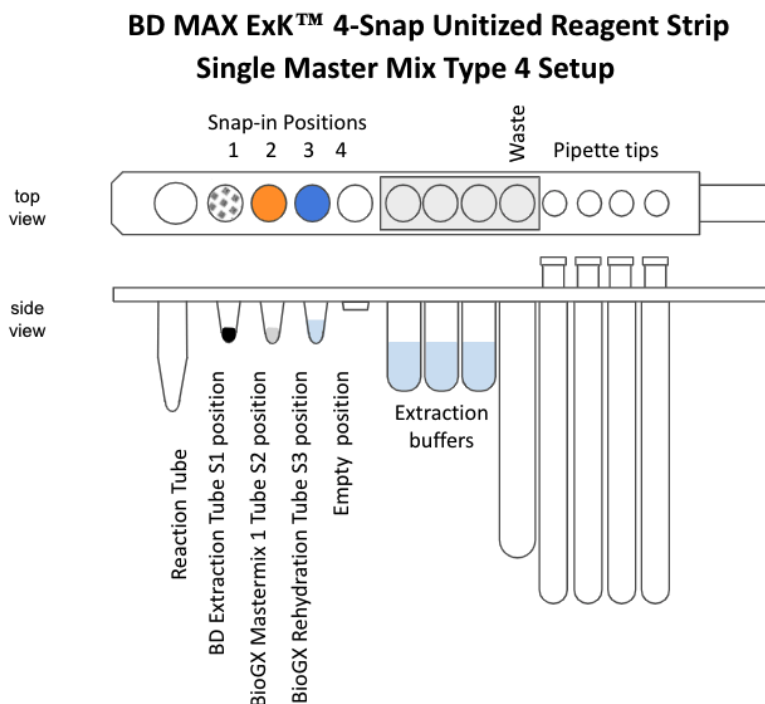

Figure 1 – Diagram of BD MAX™ ExK™ 4-snap Unitized Reagent Strips
4. Snap one BD MAX™ ExK™ DNA-2 Extraction Tube into position 1 (Snap-1) of each Unitized Reagent Strip (Figure 1).